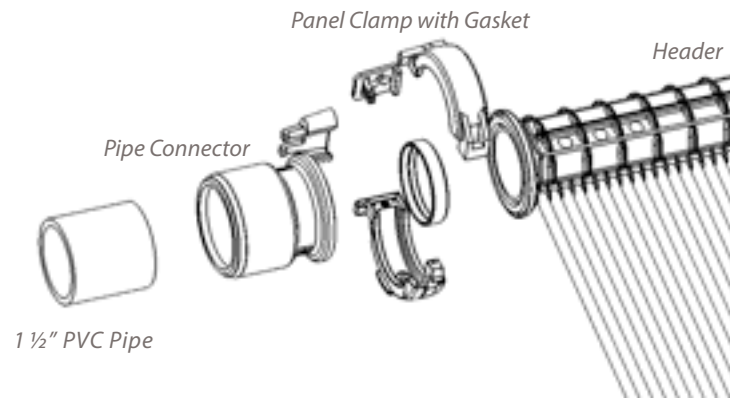

Fig. 11.1
3. Cement the PVC pipe to the pipe connector as shown in Fig. 11.1.